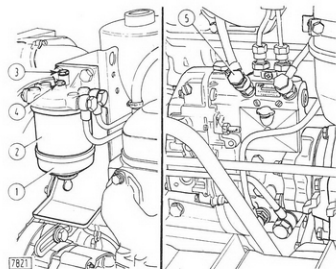

Fig. 38 - Bleeding the Fuel System (Model 355 C)
Every 50 hours, drain the condensate accumulated in the bowl (1, Fig. 38). To do this, back off the drain plug through a few turns.
- Open the fuel tank valve, back off bleed screw (3, Fig. 38), crank the engine with the starter until the